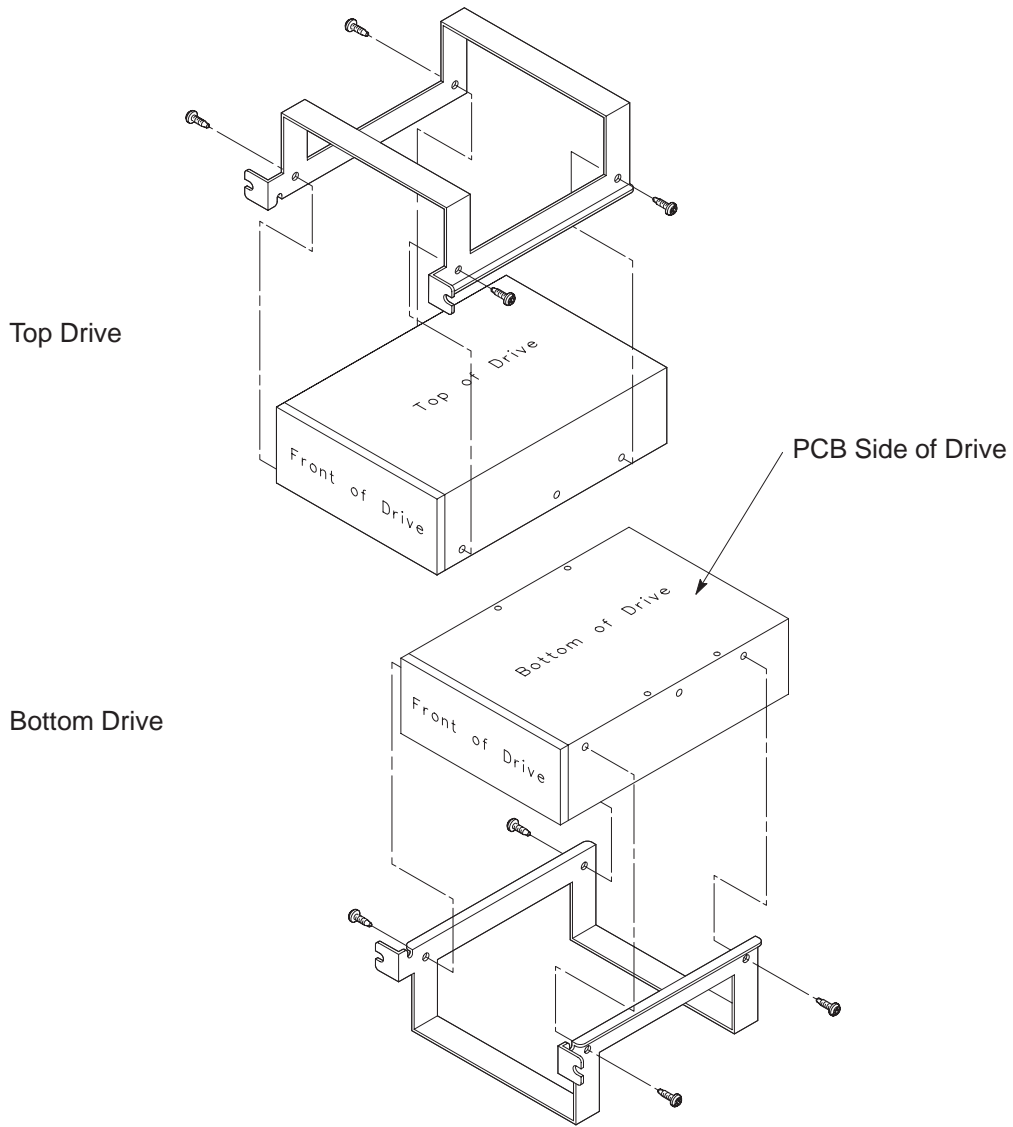
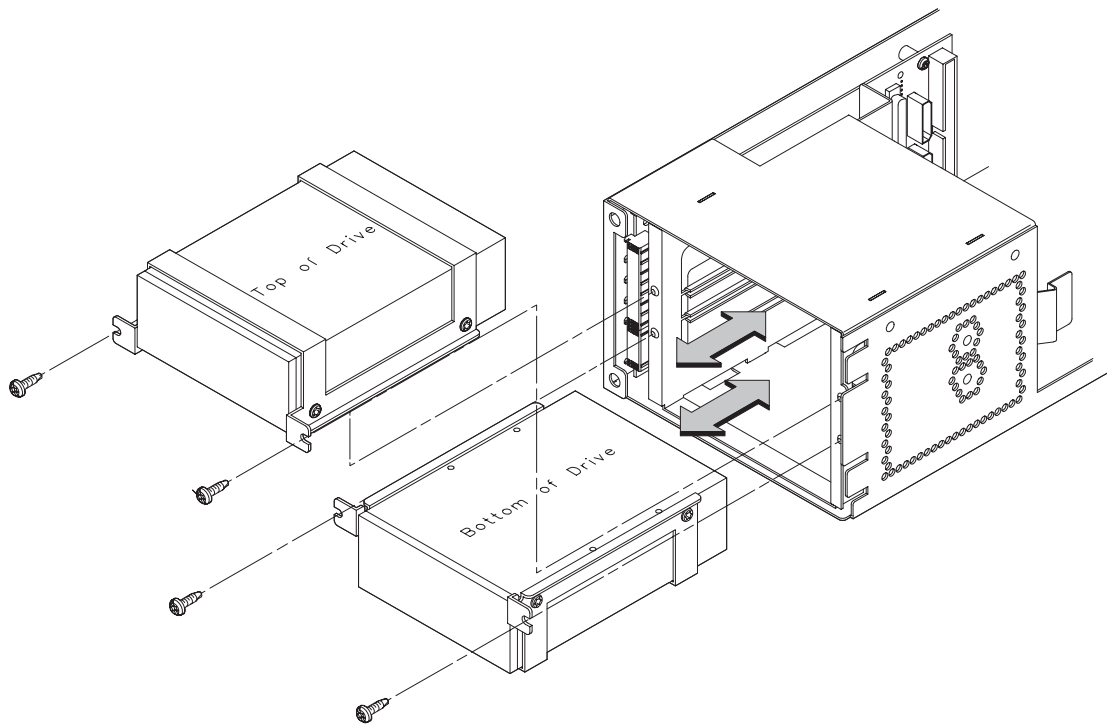

Figure B-18. Replacing Hard Drive Mounting Bracket and Drive Orientation
Figure B-20. Placing Hard Drives in Storage Drawer
2. If you removed the disk drive mounting bracket from the disk drive, replace it now, making sure not to over-tighten the screws. Figure B-18 shows the orientation of the drive in the bracket for both drives and the position of the screws holding the drive bracket in place.
6. With the disk mounting bracket between the guides on each side of the Storage Assembly, slide the disk into the Storage Assembly, securing it to the drawer with two side screws. See Figure B-20. Do not over-tighten the side screws.
The drives should be placed in the drive bays with the bottom of each drive toward the middle, as shown in Figure B-20. Refer to Figure B-18 for drive orientation in the bracket.